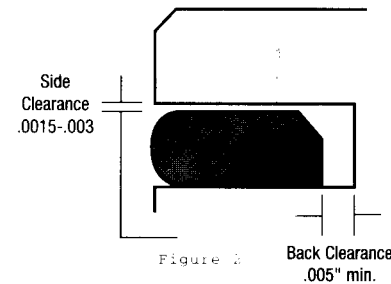

Figure 2
**IMPORTANT: BEFORE FILING RINGS** – Check each individual ring in its corresponding piston ring groove, to ensure proper ring groove depth (radial back clearance) and side clearance (thickness)(fig. 2). Proper cylinder finish (honing), ring end-gap, and lubrication are critical to achieving optimum ring seal.
Side (Lateral) Clearance – Side, or lateral, clearance is the difference between the width of the ring groove and the width of the ring itself. SAE standards recommend .002”-.004”, however many engine builders in the racing and high performance industries use clearances tighter than this. (fig. 2) Piston ring side clearances less than .001” will result in damage to pistons and rings as well as loss of compression and performance.
Back clearance is the difference between the depth of the ring groove and the radial thickness of the ring. Ring groove depths are typically made greater than the radial widths of the rings themselves in order to compensate for varying coefficients of thermal expansion. Theoretical optimum back clearance is zero, however this is not practical under actual operating conditions as the rings would likely bottom-out within the grooves and result in engine damage. (fig. 2)